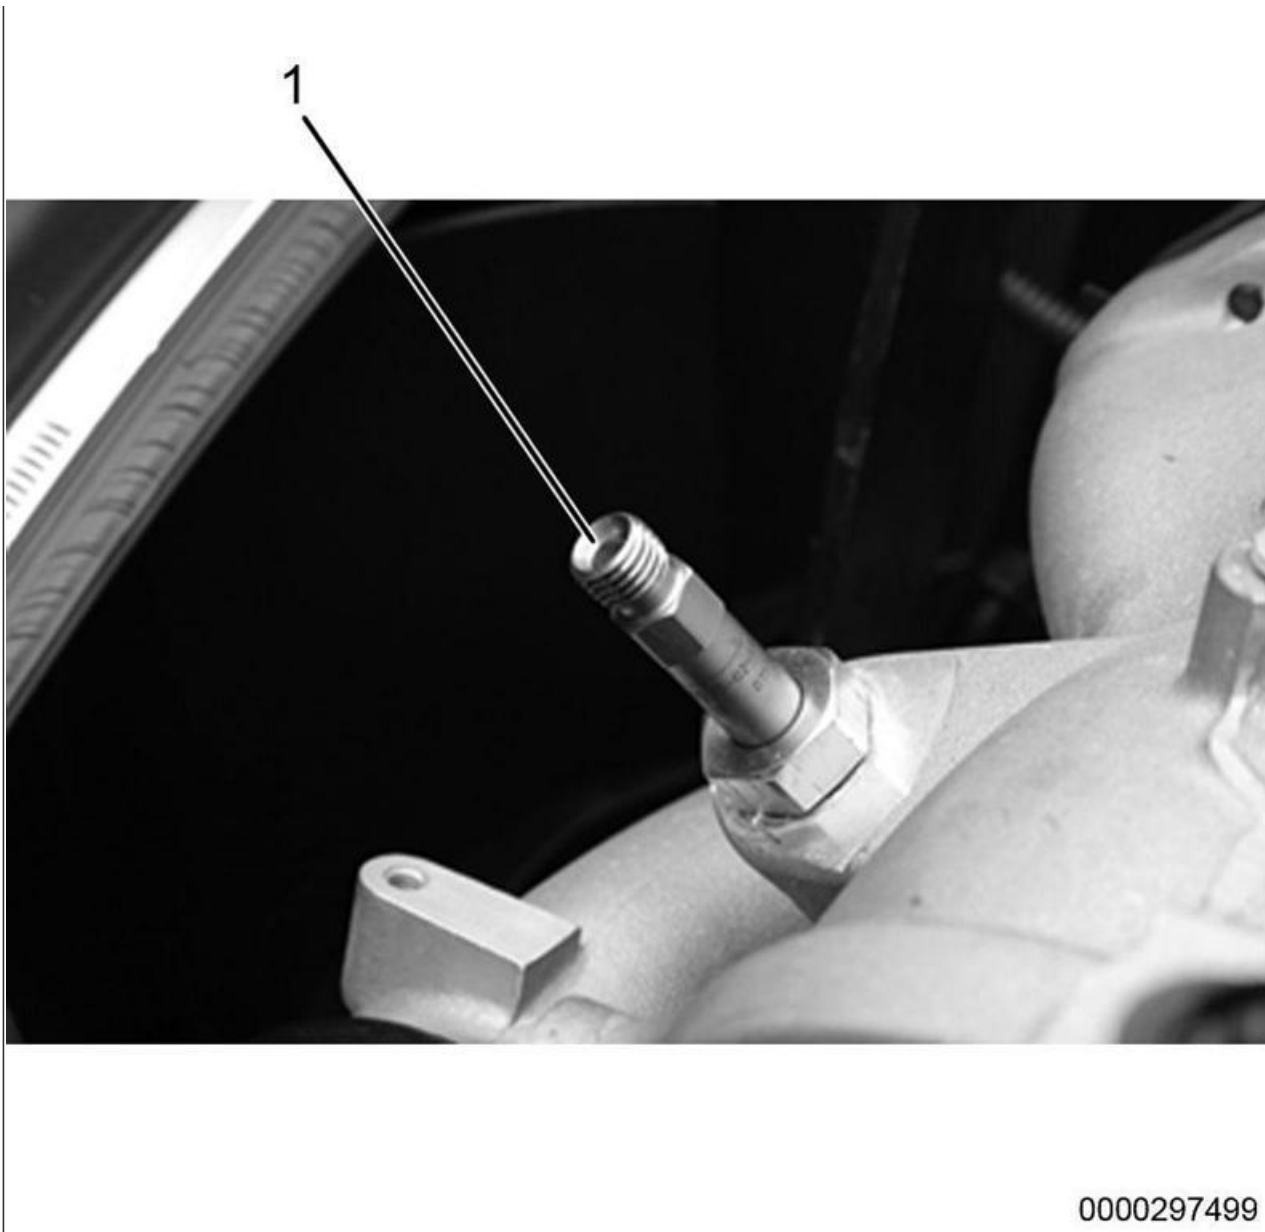

Figure 5: Injector and Adaptor
20. Remove protective cap, and install kit-supplied injector adapter and injector (Figure 5, Item 1) into cold start fuel igniter port. Hand tighten injector adapter but no more than 10 lb-in (1 N·m).